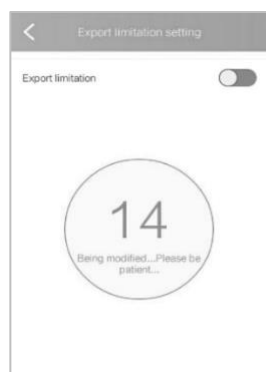
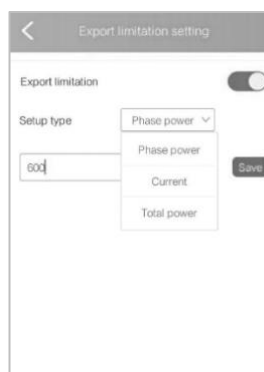

Figure6.3 Countdown interface
Figure6.4 Power limit/Current limit setting
(4) Turn on “export limitation”, Wait for 15s countdown seconds to set successfully, supply the power mode and current mode, as shown in Figure 6.3 and Figure 6.4